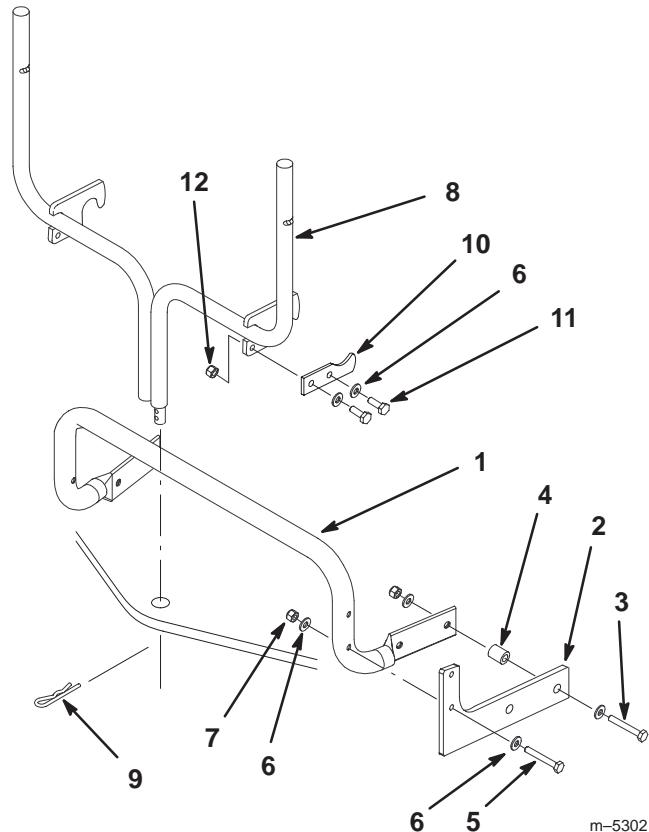

Figure 17
2. Attach the support rod and gussets to the tractor with 4 bolts (5/16 x 2 in.) and 4 spacers and the washers and locknuts removed in step 1 (Fig. 17).
- Secure the upper half of the gusset to the rear support rod with 4 bolts (1/4 x 1-3/4 in.), 8 washers (1/4 in.), and 4 locknuts (1/4 in.) (Fig. 17).
- Slide the bottom of the quick-attach bracket down into the hole in the hitch and hook the notches over the rear support rod (Fig. 17).
- Slide the hairpin cotter through the hole at the bottom of the quick-attach bracket (Fig. 17).
- Attach the plates to the quick-attach bracket using 4 bolts (1/4 x 1 in.), 4 washers (1/4 in.), and 4 locknuts (1/4 in.) (Fig. 17).